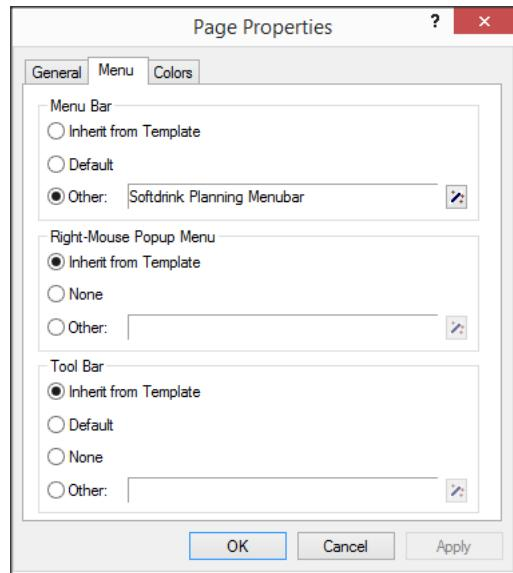

Figure 13.18: The **Menu** tab of the **Page Properties** dialog box
- ▶ select 'Other' as the **Menu Bar** option (see Figure 13.18),